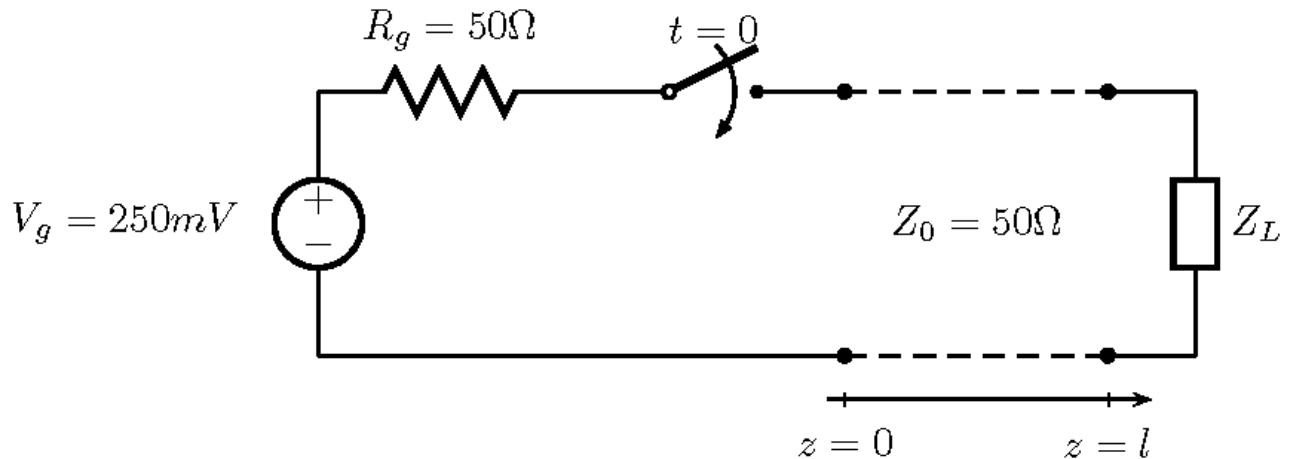

Figure 1: Transmission line circuit model.
Consider the transmission line circuit shown in Fig. 1, which consists of a DC voltage source V_g and a series resistance R_g on the input port, connected to a lossless transmission line of length l with characteristic impedance Z_0 , and terminated by a load impedance Z_L on the output port. Let's examine the transient response of this circuit when the switch is closed at time $t = 0$.
5. Using the data obtained from the TDR waveform sketch an equivalent simplified transmission line circuit model, similar to figure 1, for the observed waveform. (You do not need to include capacitive or inductive effects in your model.)